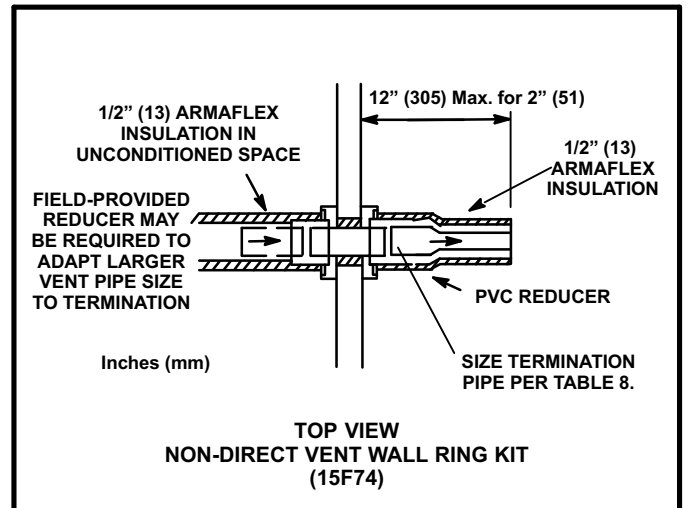

FIGURE 41
- 2 - On field supplied terminations for side wall exits, exhaust piping should extend a maximum of 12 inches (305mm) beyond the outside wall. See figure 41.